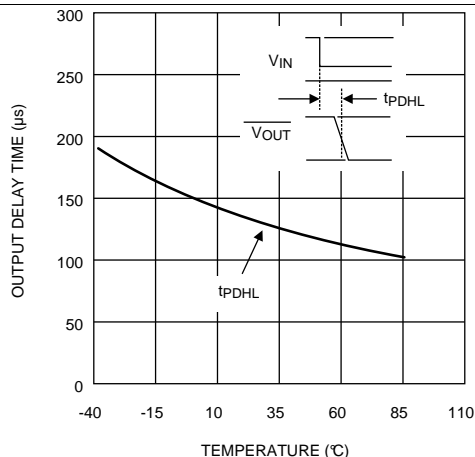

Figure 3. Propagation Delay Time (t_{PDLH}) vs Temperature
** See Figure 3 for tPDH values